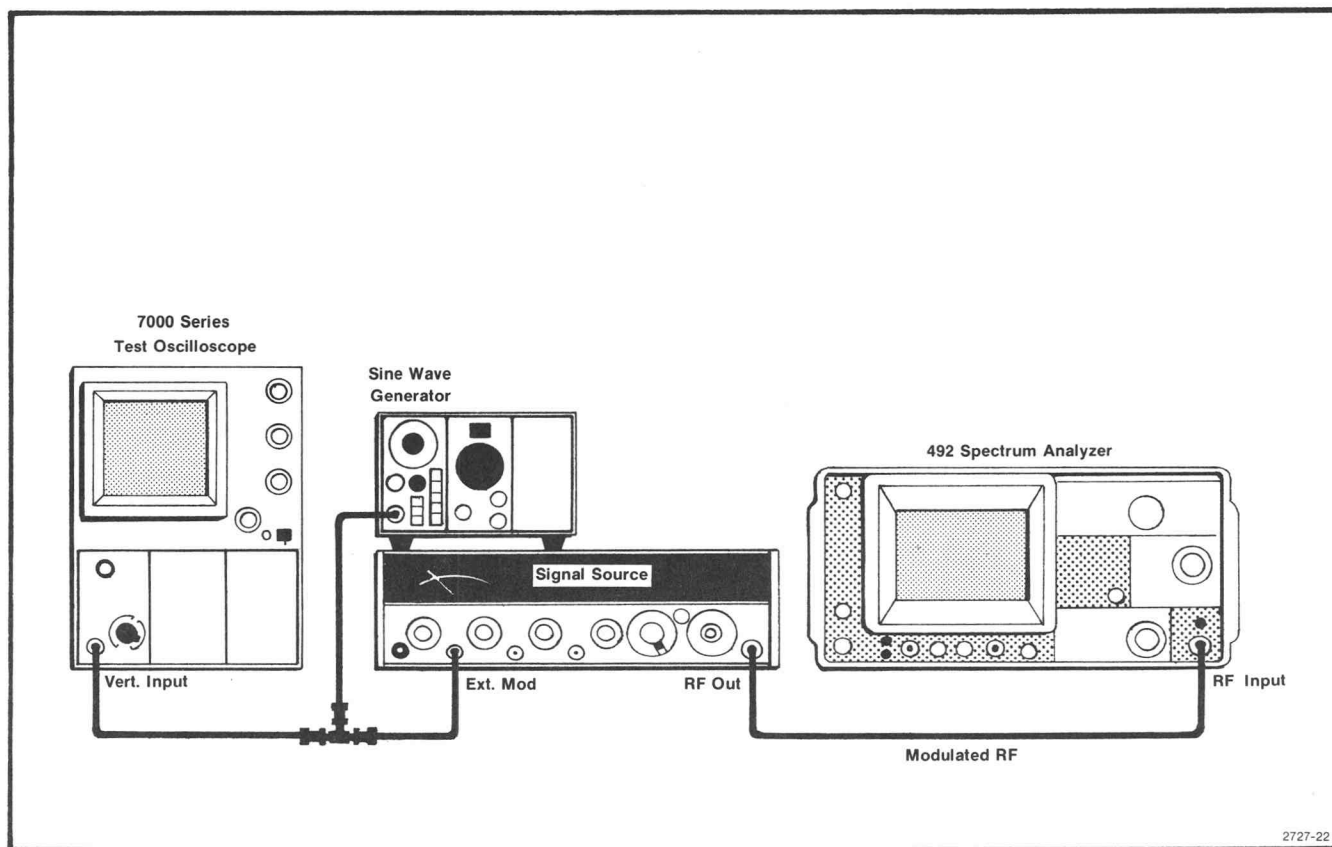

Fig. 3-18. Test equipment setup for checking triggering requirements.
a. Apply the output of a signal generator, modulated by a sine-wave generator, to the RF INPUT of the 492. Monitor the output of the sine-wave generator with a test oscilloscope (see Fig. 3-18).